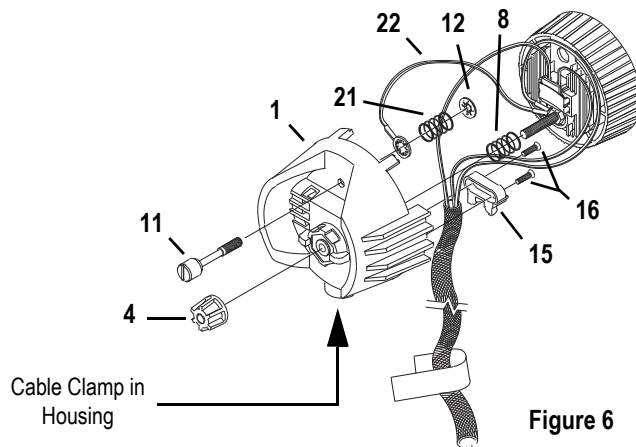

Figure 6
- Step 10: Insert the knurled head screw (11) through the housing socket casting (1) as shown in Figure 6.
- Step 11: Install the shorter green ground wire (22) onto the screw. The prongs on the crimped connector should be toward the casting.
- Step 12: Install the ground spring (21) onto the screw and secure it with the Southco flat retaining ring (12). Install the Southco ring with its prongs away from the casting.
Step 15: Place the compression spring (8) on the protrusion on the inside of the index hub (6).
Step 16: Insert bolt (17) through spring (8) and through the index hub (6) of the housing socket (1), joining the two castings. Make sure wires are not pinched between the two pieces.
Step 17: Before proceeding, check again to make sure the wires are still positioned as indicated in Figure 6. Adjust if necessary.
Step 18: Press the two castings together firmly so the bottom of the light baffle (2) sits on top of the cable clamp (15), then install the Z lamp knob (4). Hand tighten the knob all the way to the right.